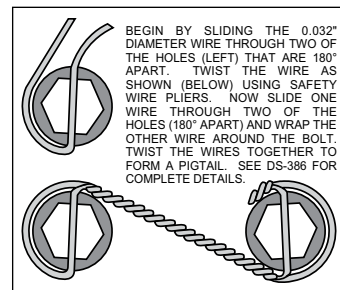

Figure 5. Safety Wire Diagram
- Orient the rotor (6) and the hat (7) as shown in Figure 1 and Photo 1. Attach rotor to hat using bolts (8) and washers (9). Apply red *Loctite*® 271 to the bolt threads and torque to 155 in-lb using a criss-cross pattern. For an added measure of security, the bolts may be safety wired using standard 0.032 inch diameter stainless steel safety wire as shown in Figure 5. Refer to Wilwood's data sheet DS-386 (available at [www.wilwood.com/Pdf/DataSheets/ds386.pdf](http://www.wilwood.com/Pdf/DataSheets/ds386.pdf)) for complete safety wire installation instructions.
- Slide the rotor registration adapter (5) onto the axle flange with the smaller O.D. facing toward the rotor/hat, Photo 2.